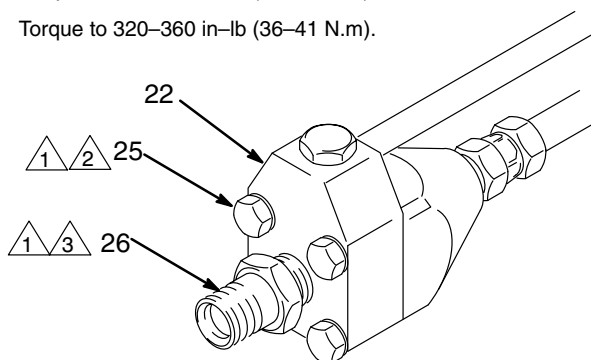

Fig. 5 0273
- After the first 3 to 5 hours of operation** torque the four screws (25) on the bottom of the paint pump to 170–200 in–lb (19–23 N.m). See Fig. 5.
- Also torque** the inlet valve (26) to 320–360 in–lb (36–41 N.m).